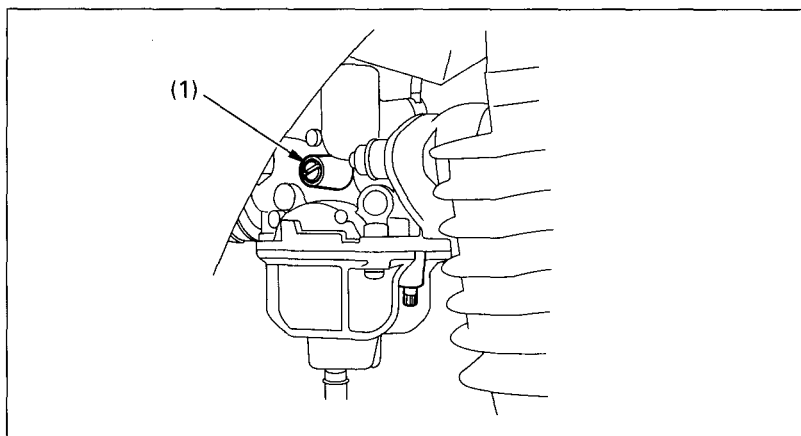

Fig. 4-9
2. Adjust idle speed by turning the throttle stop screw (Fig. 4-9 ).